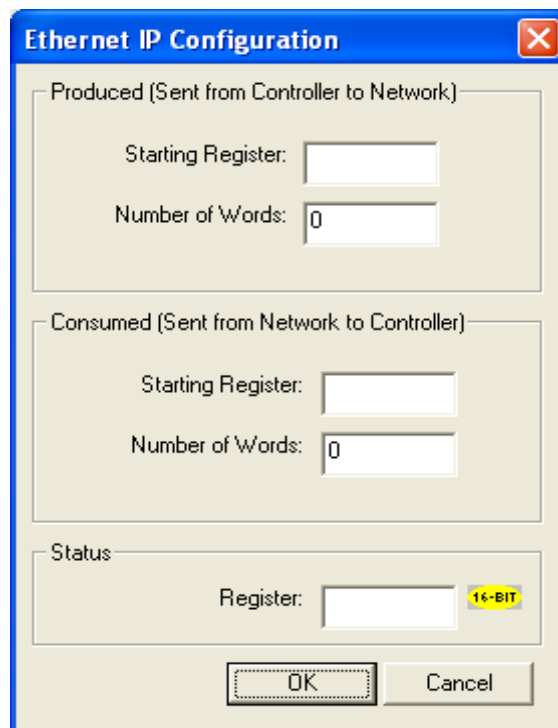

Figure 9.2- Ethernet IP Configuration Dialog
3. Click on the **Config** button next to the **Ethernet IP** checkbox to open the Ethernet/IP Configuration dialog (Figure 9.2).